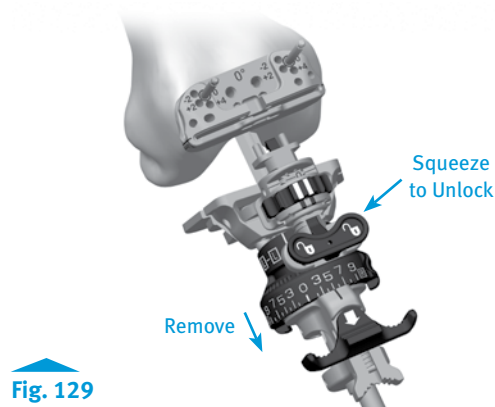

Fig. 129
- Squeeze the button on the Distal Femoral Resection Guide (Fig. 129) to release and remove the Femoral Valgus Alignment Guide and Distal Femoral Resection Guide assembly from the cutting head. The Modular T-Handle is used to remove the IM Rod, prior to the distal femoral resection.